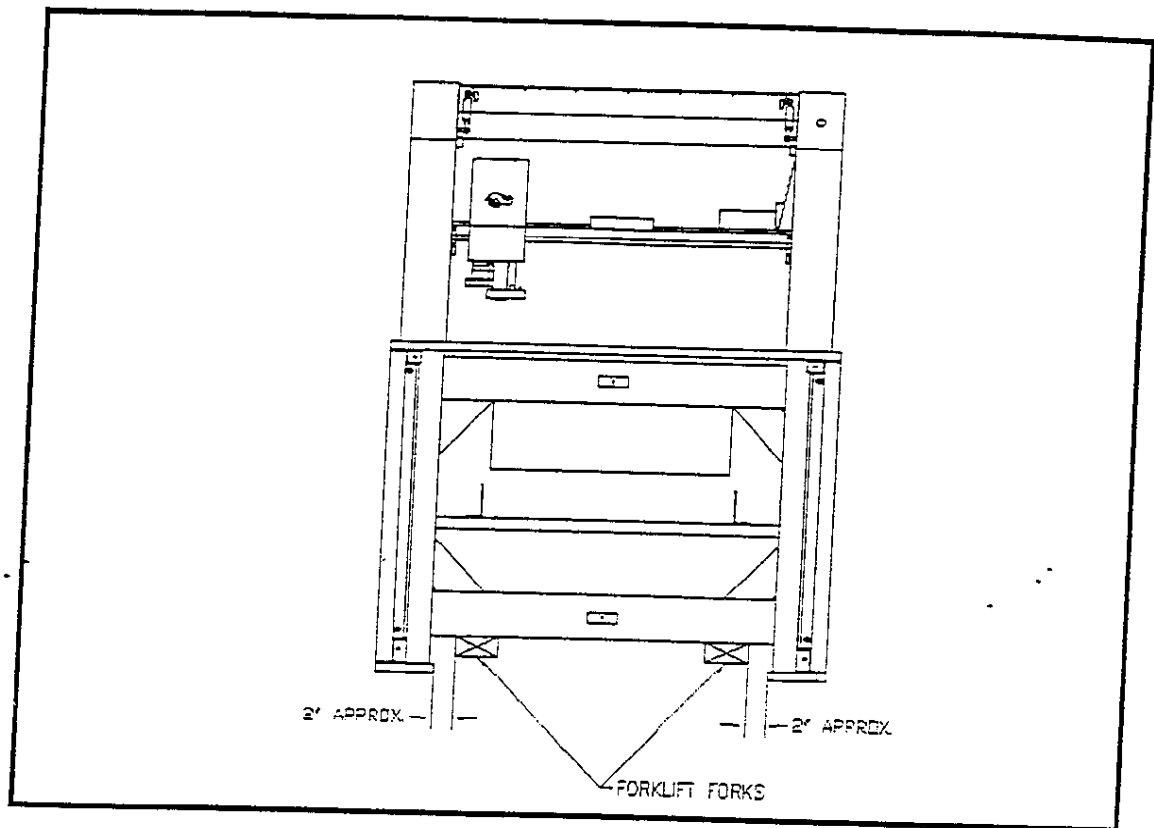

FIGURE 2
7. Raise the machine off the skid using a forklift. Be sure that outer panels are removed since the panels hang beyond the bottom of the cross-members. Be sure that the forks extend beyond the cross-members by a few inches. (SEE FIGURE 2).